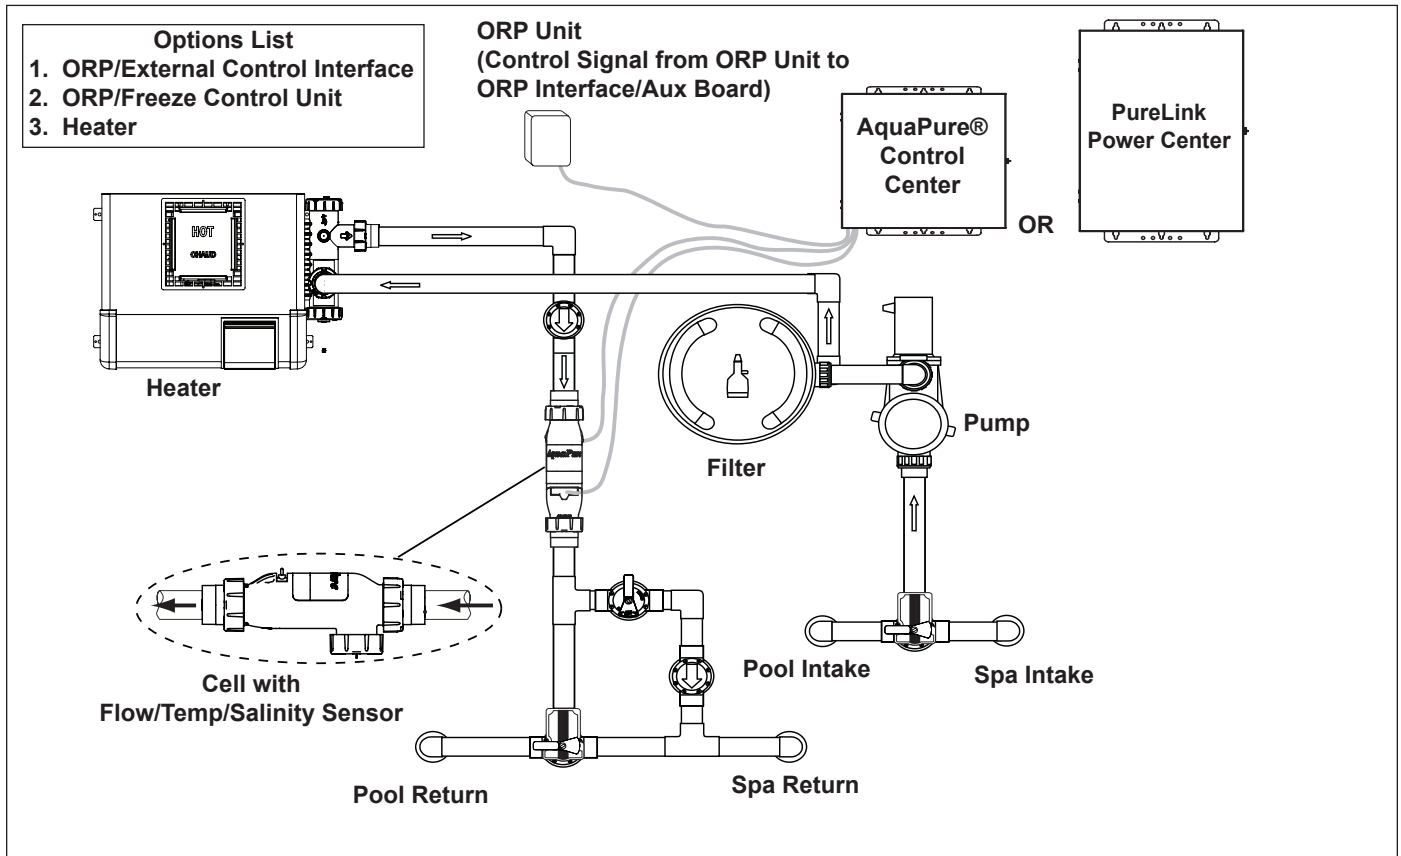
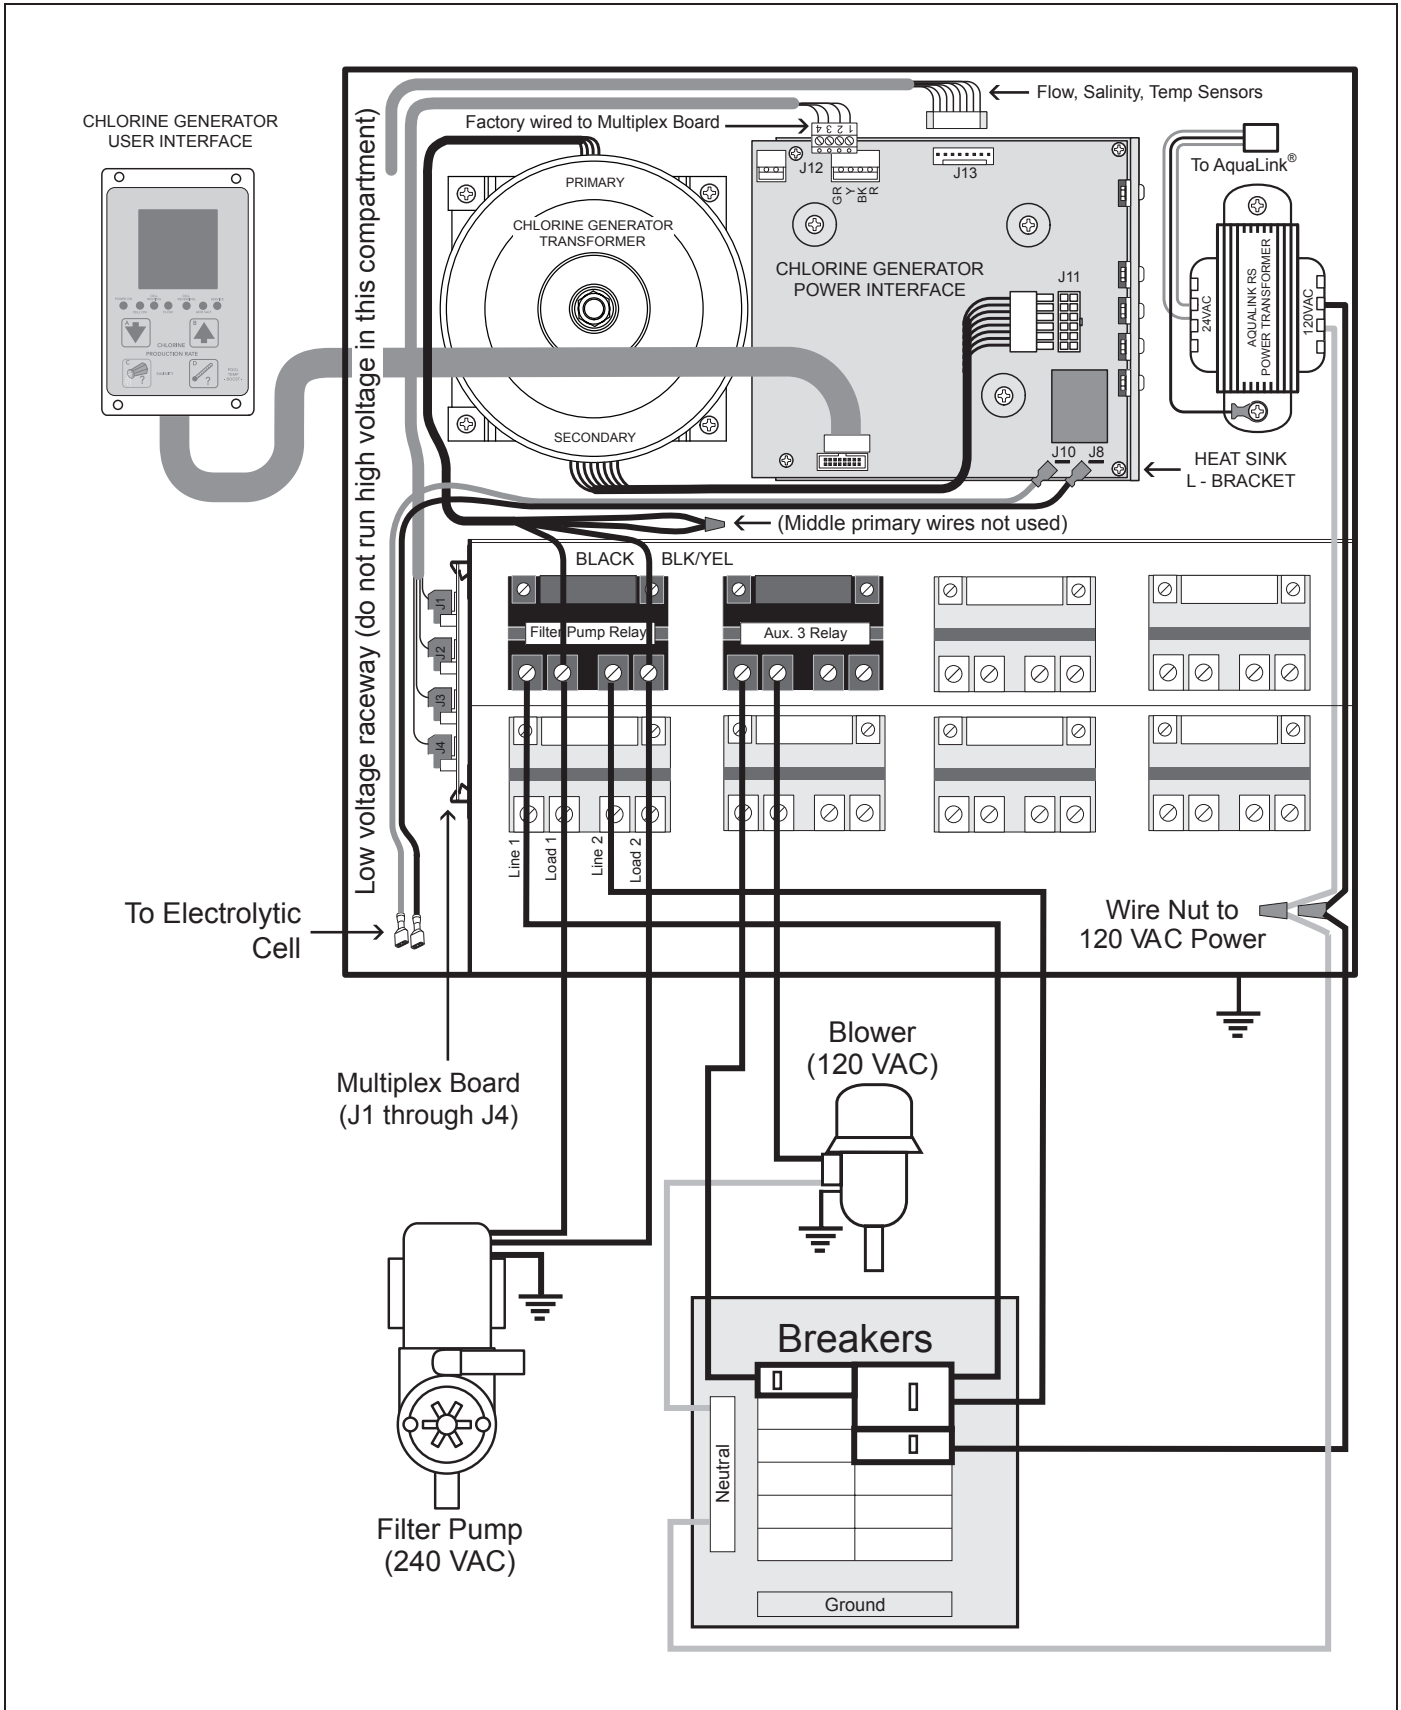
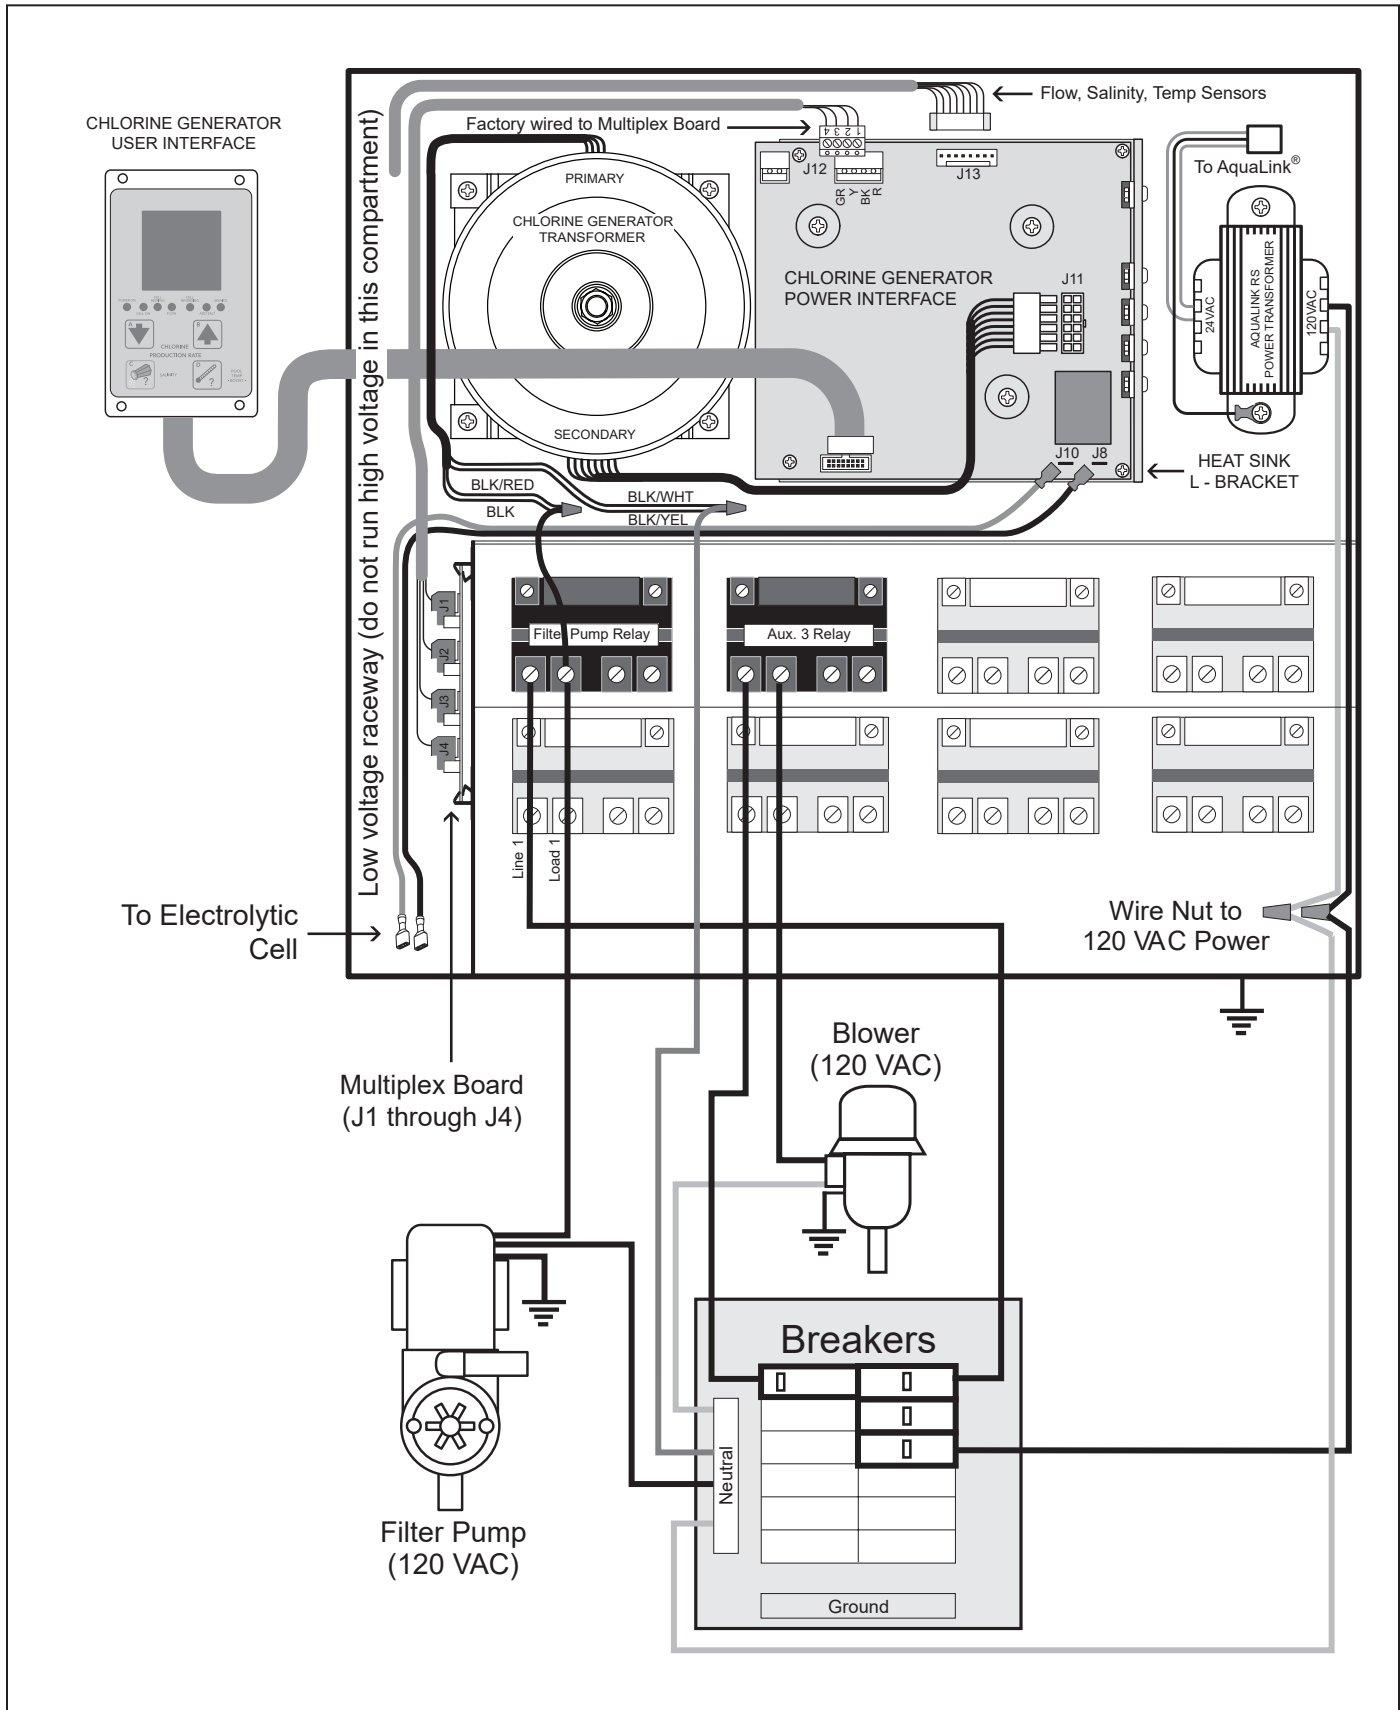
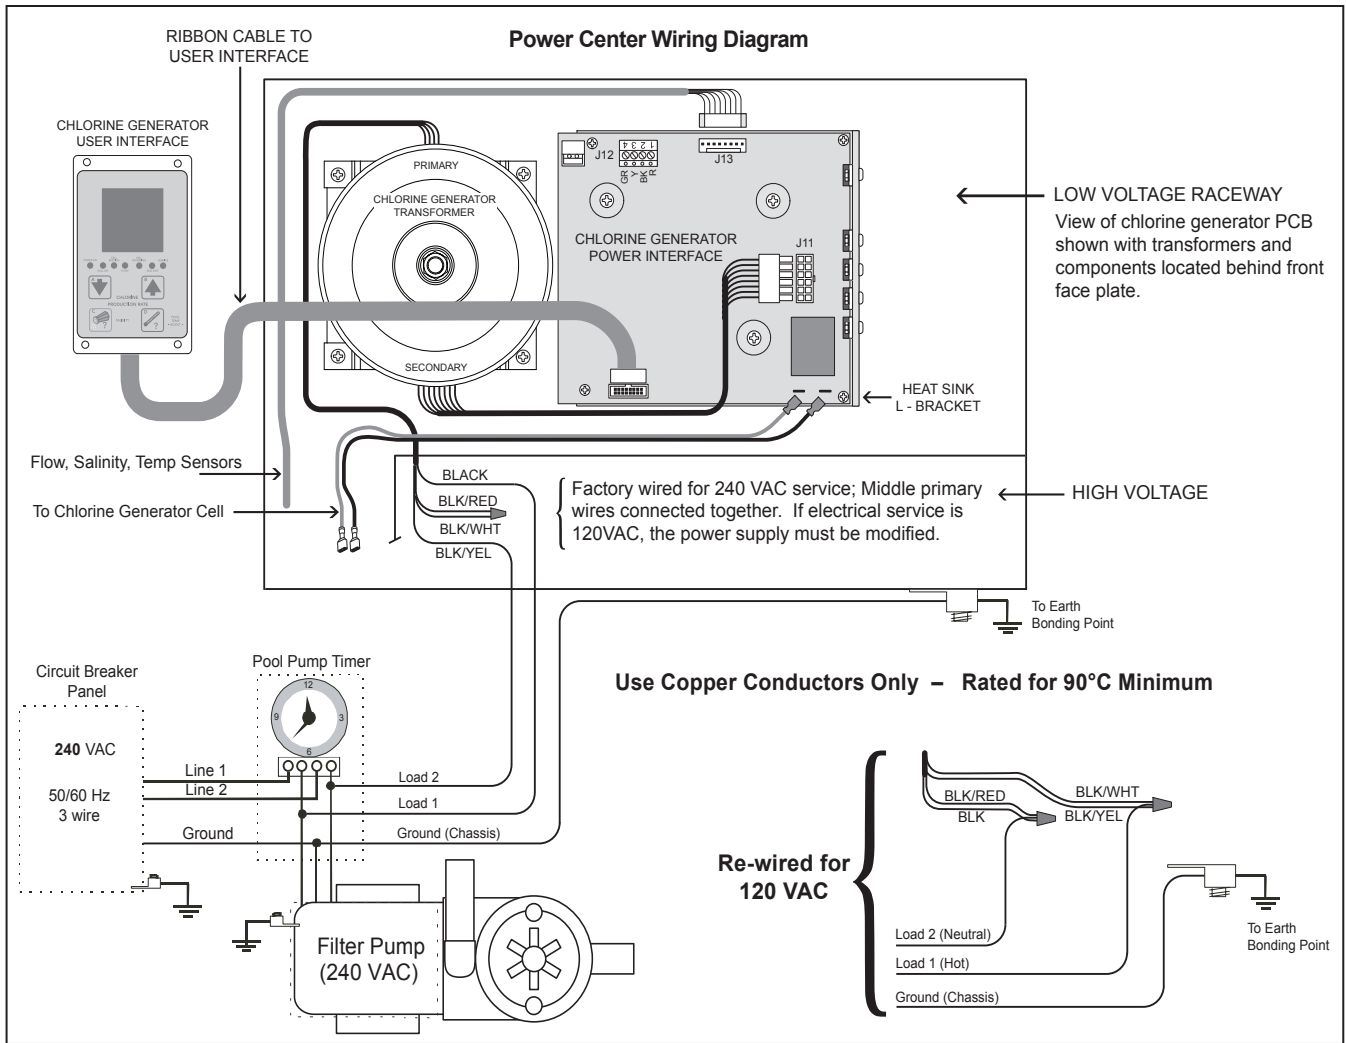

Figure 1. Typical AquaPure and PureLink Installation Example With Options
Figure 2a. Wiring Diagram for the PureLink™ System with a 240 VAC Filter Pump
Figure 2b. Wiring Diagram for the PureLink™ System with a 120 VAC Filter Pump
Figure 2c. Wiring Diagram for the AquaPure® System
<p>Figure 1. Typical AquaPure and PureLink Installation Example With Options..... 8</p> <p>Figure 2a. Wiring Diagram for the PureLink™ System with a 240 VAC Filter Pump 10</p> <p>Figure 2b. Wiring Diagram for the PureLink System with a 120 VAC Filter Pump 11</p> <p>Figure 2c. Wiring Diagram for the AquaPure System 12</p> <p>Figure 3. Chlorine Generator Cell and Sensor Orientation with Flow Direction 13</p> <p>Figure 4. Recommended Plumbing Configuration for Pool/Spa Combination Systems 14</p> <p>Figure 5. Recommended Plumbing Configuration for Pool or Dual Equipment Systems 14</p> <p>Figure 6. Removing the Control/Power Center Mounting Brackets from Shipping Position 15</p> <p>Figure 7. Mark Holes using Control/Power Center Mounting Bracket 15</p> <p>Figure 8. Reinstall Mounting Brackets on Control/Power Center..... 16</p> <p>Figure 9. Chlorine Generator Power Interface Board..... 17</p> <p>Figure 10. Installation of the User Interface 17</p> <p>Figure 11. Cell Installation and Flow/Temp/Salinity Sensor 22</p> <p>Figure 12. Pipe Cutout 23</p> <p>Figure 13. Pipe Cutout (Option 3 - Replace 2-Port Cell and Piping and treat as New Installation)..... 23</p> <p>Figure 14. Power Connection between AquaPure Control Center and AquaLink Power Center 24</p> <p>Figure 15. Communication Connection between AquaPure Control Center and AquaLink Control System..... 24</p> <p>Figure 16a. Wiring a PureLink Control System Network 25</p> <p>Figure 16b. Wiring a PDA Control System Network.. 25</p> <p>Figure 17. Movable ORP Jumper J14 26</p> <p>Figure 18. User Interface..... 32</p> <p>Figure 19. Spool Piece Location 40</p>	<p>Figure 20a. AquaPure Control Center 46</p> <p>Figure 20b. PureLink Power Center, 6614AP..... 47</p> <p>Figure 20c. PureLink Power Center, 6613AP..... 47</p> <p>Figure 21. 3-Port Electrolytic Cell and Sensor Exploded View (Universal Unions)..... 48</p> <p>Figure 22. 3-Port Spool Exploded View 48</p> <p>Figure 23. 3-Port Electrolytic Cell and Sensor Exploded View (2" PVC Unions) 49</p> <p>Figure 24. 3-Port Spool Exploded View..... 49</p>
The electronics for the salt water chlorinator are factory wired for 240 VAC service. If the available electrical service is 120 VAC then the power supply wiring must be changed to operate on 120 VAC as shown in Figure 2b.
8. Check source voltage. (All units are factory wired for 240 VAC). ***In order to use on 120 VAC, the internal factory wiring of the power center must be changed. (See Figures 2b and 2c).***
7. Install the strain relief provided with the electrolytic cell kit into the low voltage knock out. Feed the connector end of the flow/temp/salinity sensor cable through the DC cord strain relief fitting. **Be certain the connector is clean and dry**, then plug the cable into the connector on the power center printed circuit board as shown in Figures 2a, 2b, and 2c. (**Do not pull Flow/Temp/Salinity Sensor cable too tight, allow a little slack**).
9. Connect the DC cord to the power center. Feed the DC cord through the same strain relief fitting as the flow/temp/salinity sensor. Plug the DC cord into the two spade connectors of the wiring harness located in the low voltage raceway of the control/power center, see Figure 2a, 2b, and 2c. This wiring harness establishes the connection between the cell and the power interface PCB.
12. Plug one end of the ribbon cable into the back of the user interface and the other end into the J1 connector on the power interface PCB (see Figures 2a, 2b, 2c, and 10).